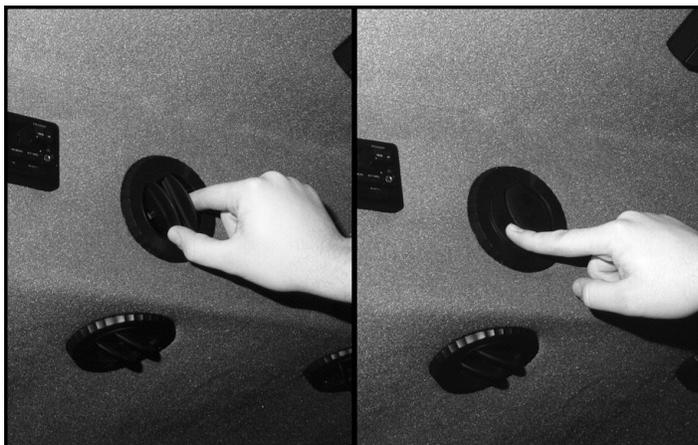

FIG 5.85
**ADJUSTING VENTS -** Air vents may be adjusted by rotating them for desired direction (fig. 5.84) or individually turned on or off with the directional fins (fig. 5.85).